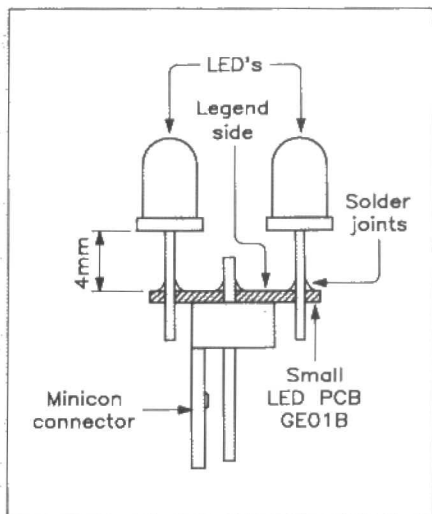
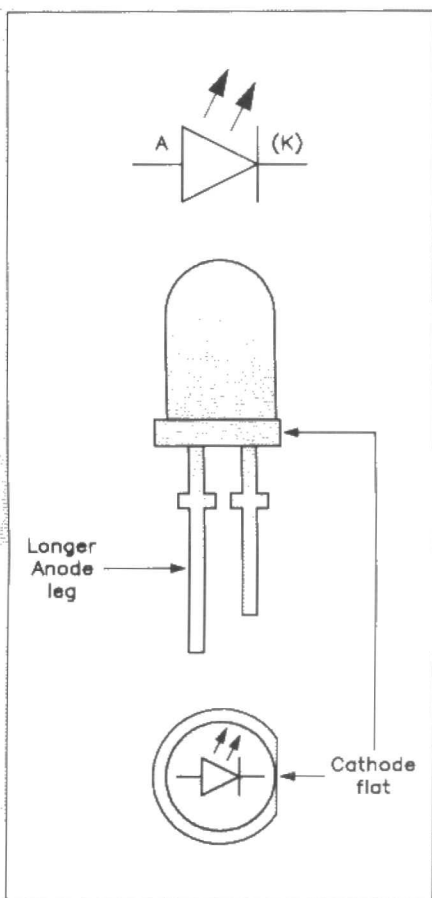

Figure 6. Mounting the LEDs.
Figure 7. LED information.
cathode is placed. Be sure to position them according to the legend, where the markings are shown. Installing the LEDs on the small boards will be tricky. These LEDs need to be mounted on the track side of the board (see Figure 6). The short lead of the LED is cathode (K); this is also denoted by a flat along one side of the package as shown in Figure 7.